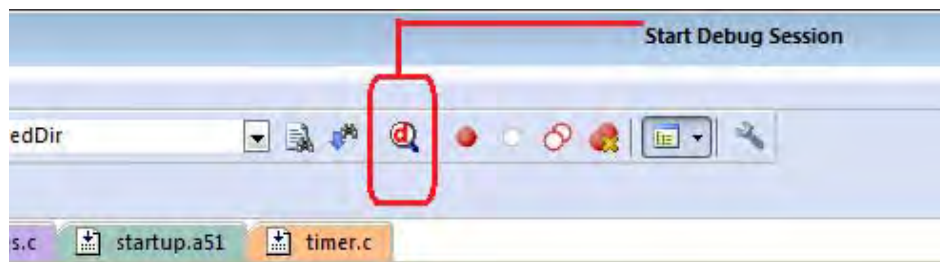
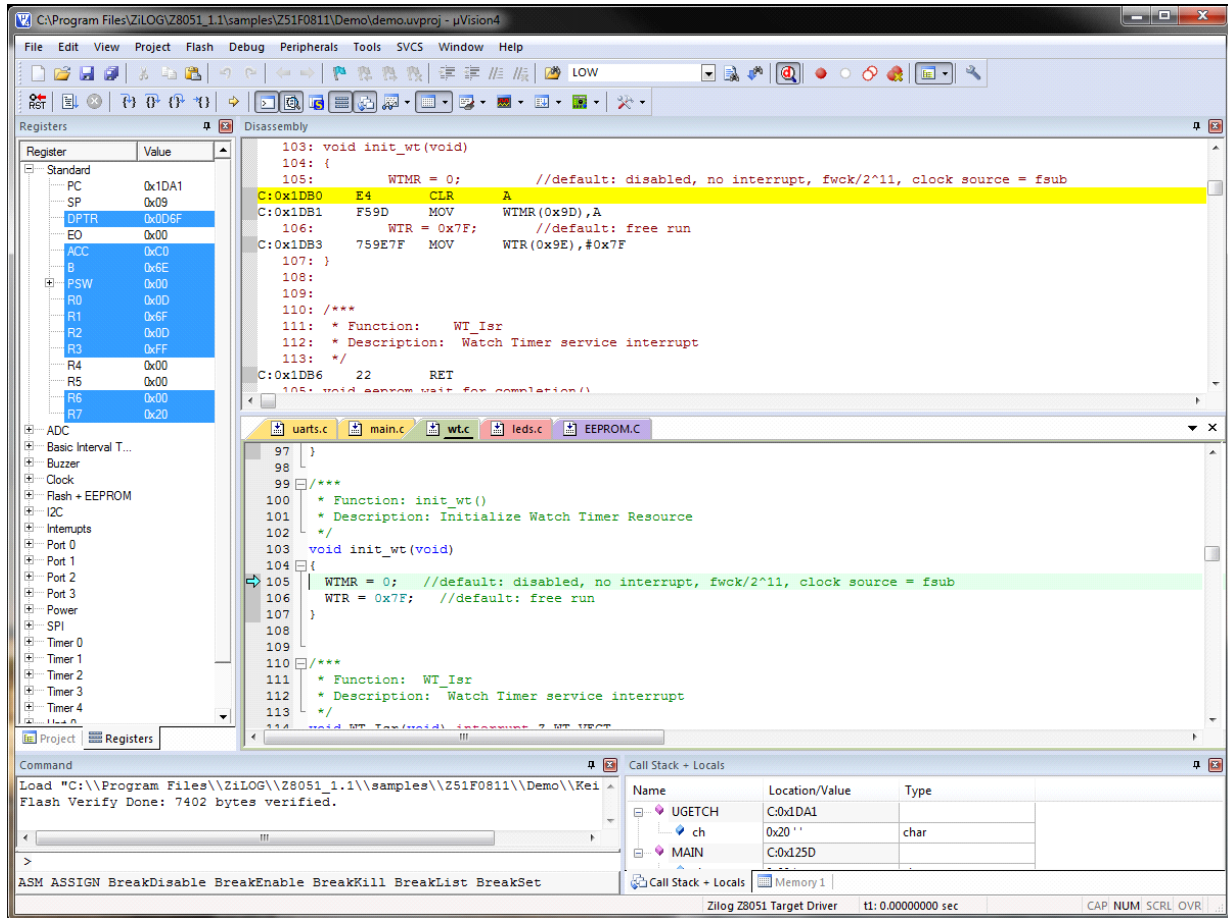

Figure 29. Beginning a Debug Session
Figure 30. A Default Debug Session
4. Start your debugging session by clicking the **Start/Stop Debug Session** icon, as indicated in Figure 29. A default Windows configuration of the debug session is shown in Figure 30.